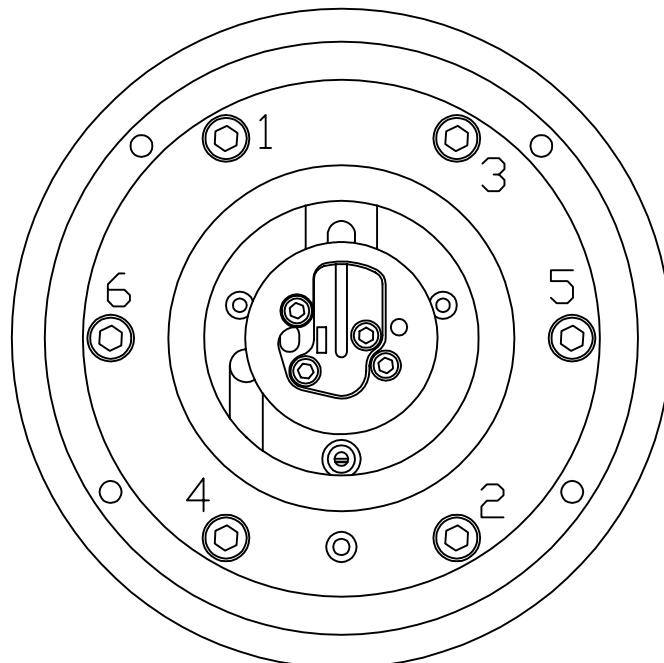

Figure 7.6 Tightening the spring holders
20. Mount the disk spring holder (N). Fasten the six screws (M) in small steps, following the pattern of numbers in Figure 7.6. Tighten to 5 Nm torque.